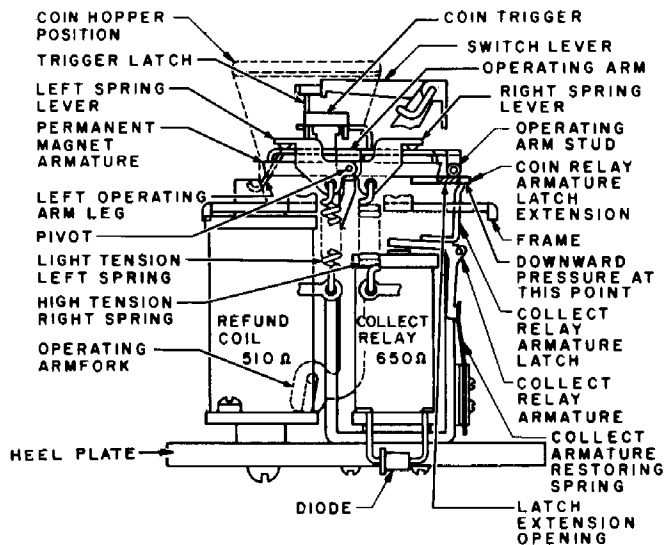

Figure 12. Coin Control Mechanism.
2.22 To disassemble the coin control mechanism (if necessary), refer to Figure 12 and proceed as follows: